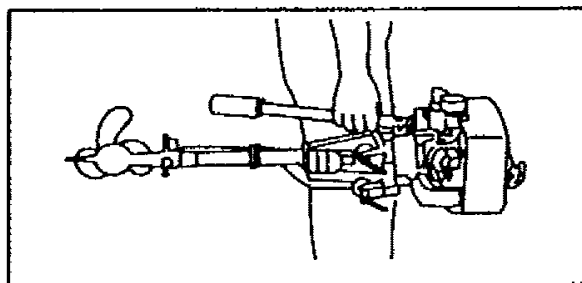

Figure 14
- d. Steering handle serves as carrying handle as shown in Figure 14.